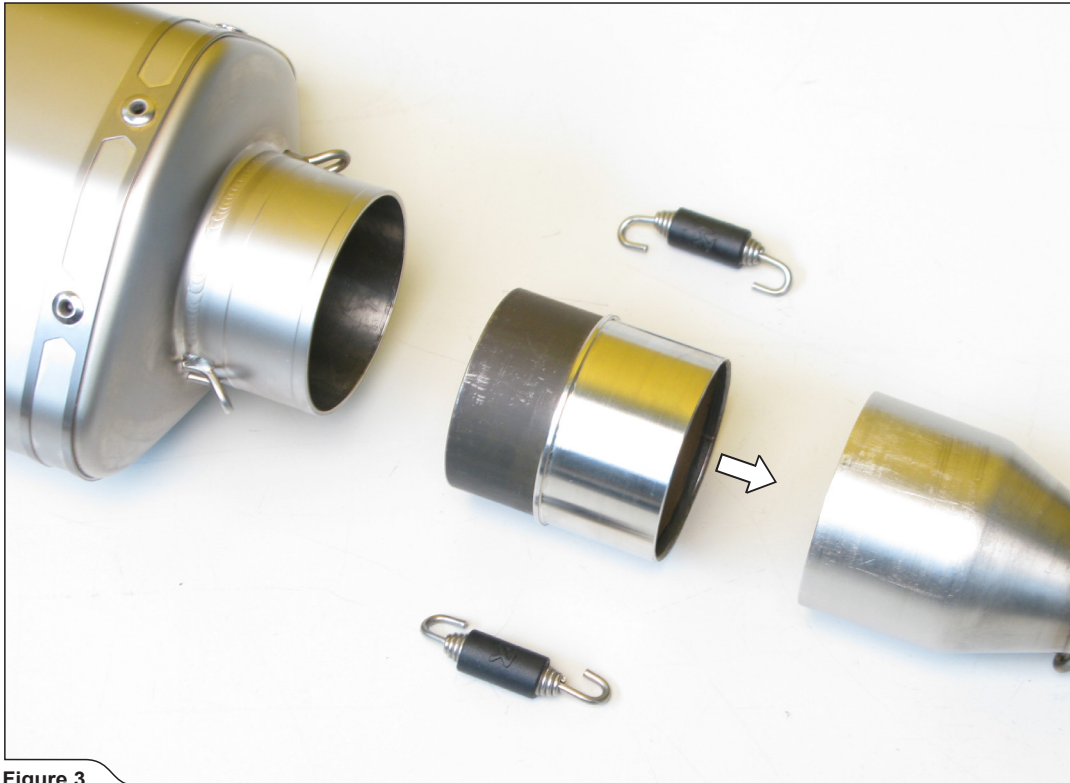

Figure 3
1. Correctly insert Akrapovič catalyst into the header's outlet, slide the header into the muffler's inlet and assemble springs as shown (Figure 3, 4).